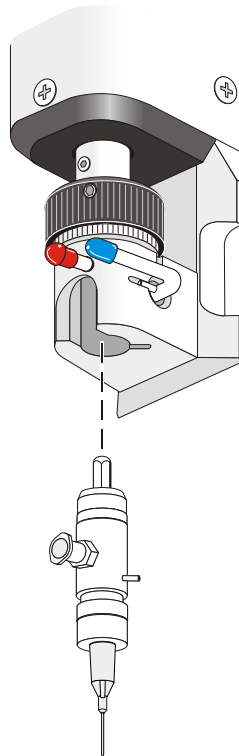

Figure 4-4 Cartridge Loading: DV-8000
5. Push in the red clutch lock release and rotate the clutch cap to the right (counterclockwise) one complete turn (Figure 4-4).